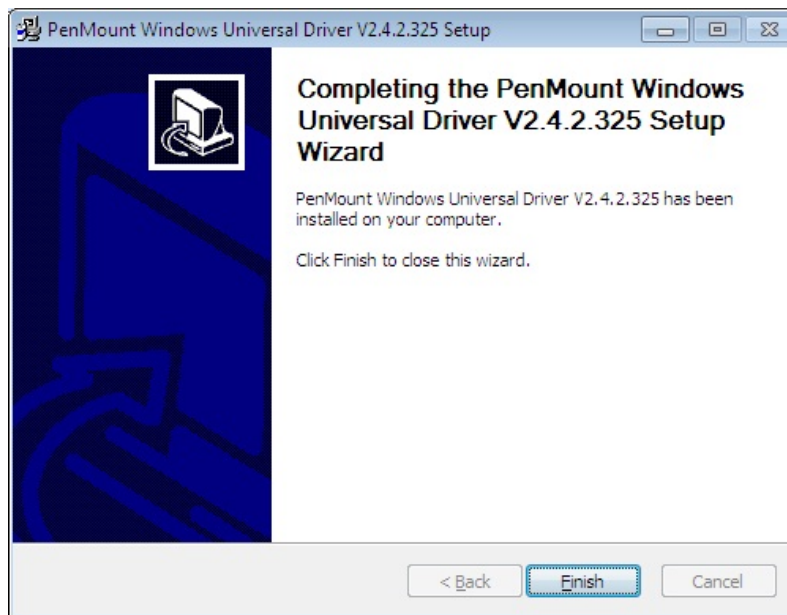

Figure 6-32: Touchscreen Driver Installation Finish Screen
Step 13: When the installation is complete, the screen in **Figure 6-32** appears. Click **Finish** to close the setup wizard.